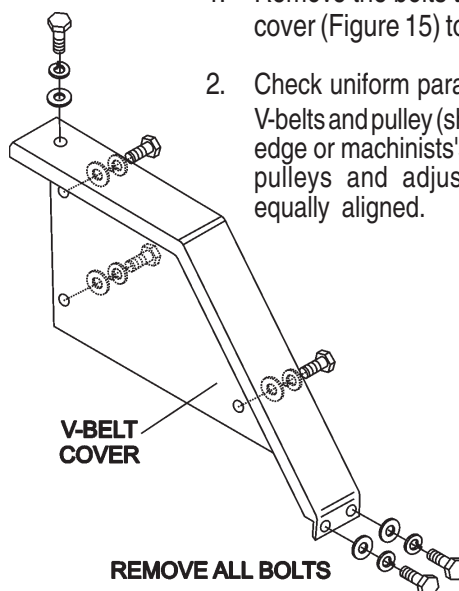

Figure 15. V-Belt Cover
1. Remove the bolts that secure the V-belt cover (Figure 15) to the saw frame.